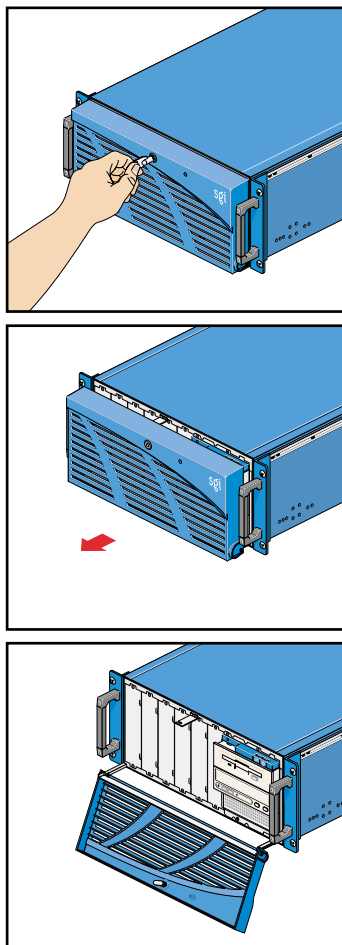

Figure 3-2 Opening a Node Bezel
- Pull the bezel out and away from the node, and swing the bezel down, as shown in Figure 3-2.